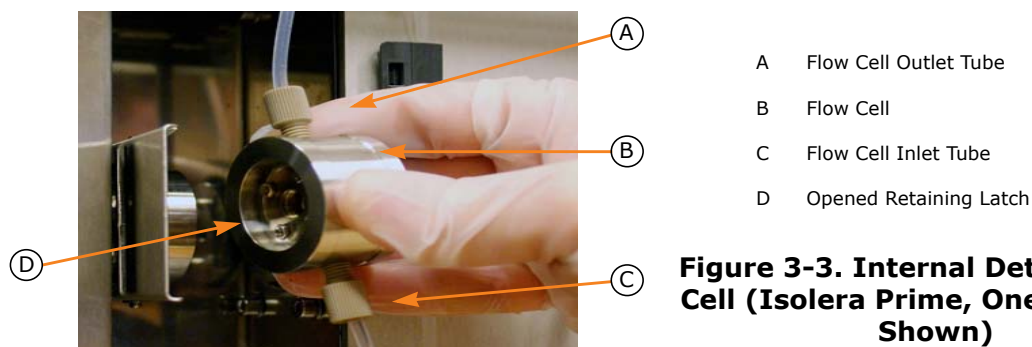

Figure 3-3. Internal Detector Flow Cell (Isolera Prime, One, and Four Shown)
2. Connect the internal and external flow cells in series or by using a splitter, or move the internal detector's inlet and outlet tubing (see Figure 3-3) to the external flow cell. Ensure that you use as short extra tubing as possible. For more information, please refer to the manufacturer of the external detector. **Tip!** If the flow cells are connected in series and the pressure exceeds 10 bar (i.e. the run is aborted), retry using a splitter.